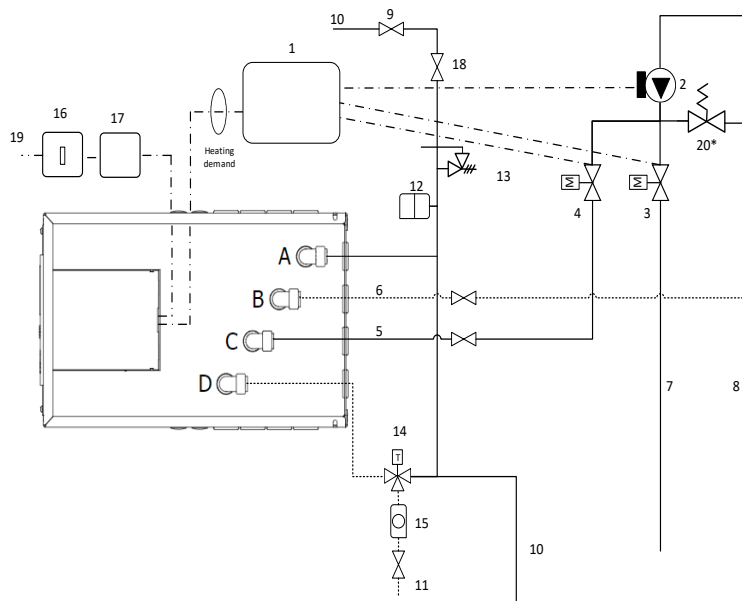

Figure 14.1: Example wiring option 1 schematic (see Figure 3a for piping and electrical options available)
- Run and connect 4 Core mains power supply cable (16A, minimum 2.5mm2 CSA) from the Solar Power Diverter to the Heat Battery. (Figures 14.1,14.2 & Section 3.9).